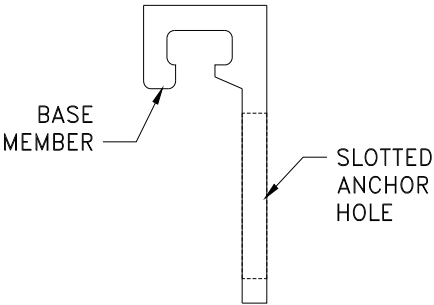

Figure 7
STEP 7. Select a section of the existing side base member (part no. GA100, see Figure 7).